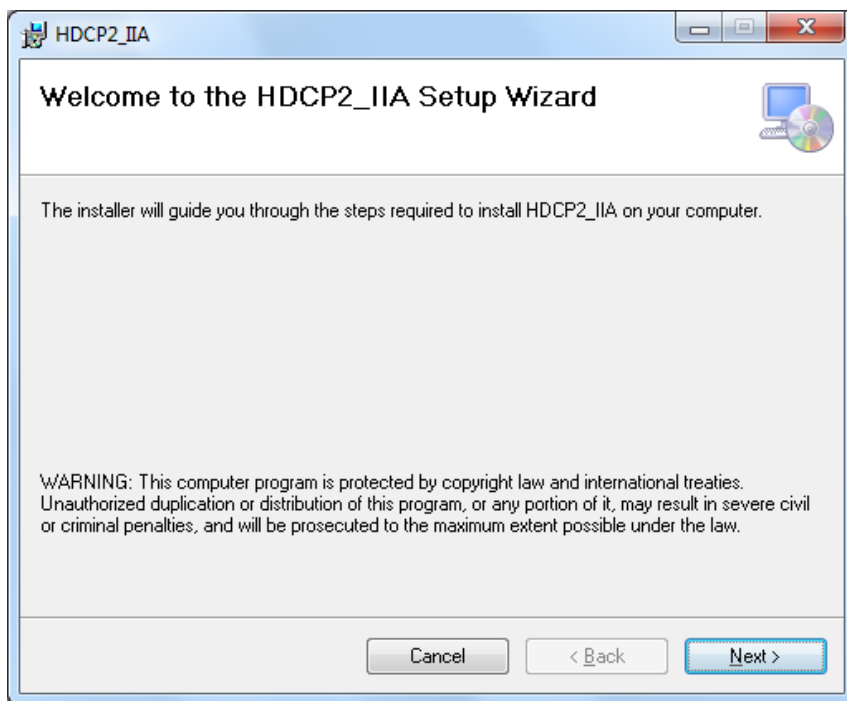

Figure 1.5. Welcome to the HDCP2_IIA Setup Wizard
2. The Welcome to the HDCP2_IIA Setup Wizard opens. See Figure 1.5. Click Next. Follow the instructions to complete the installation.